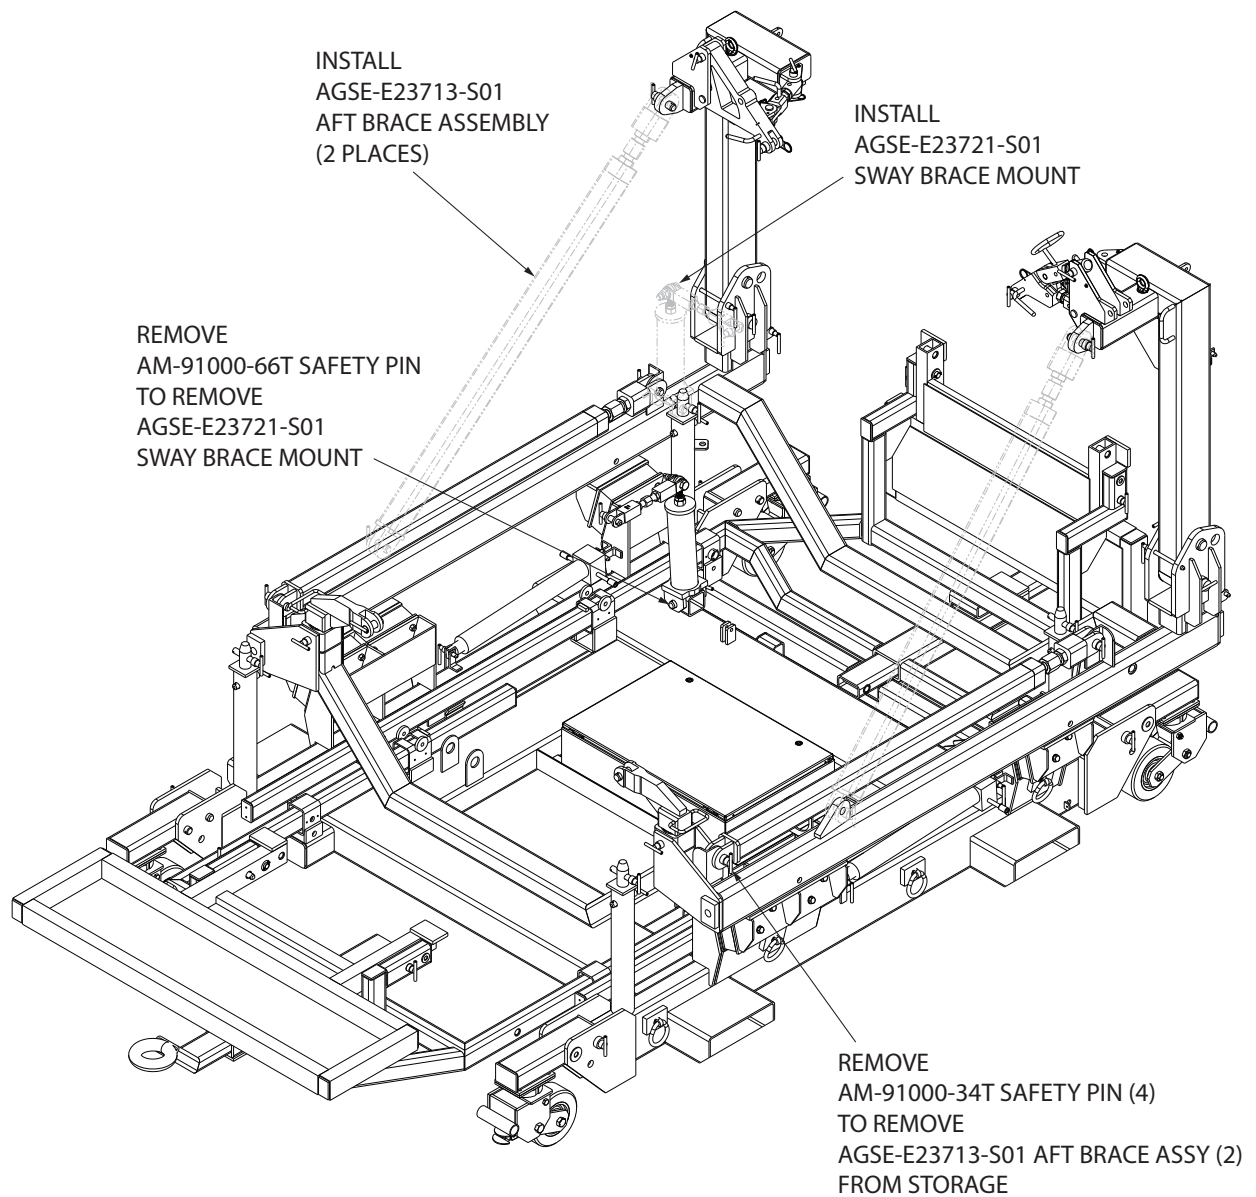

Figure 5.1-4
- 7) Remove four (4) AM-91000-34T safety pins to remove the two (2) AGSE-E23713-S01 adjustable AFT brace assemblies from their storage.
- 9) Remove AGSE-E23721-S01 sway brace mount from storage by removing AM-91000-66T safety pin. Install the sway brace mount on the cradle as indicated in Illustration Figure 5.1-4.